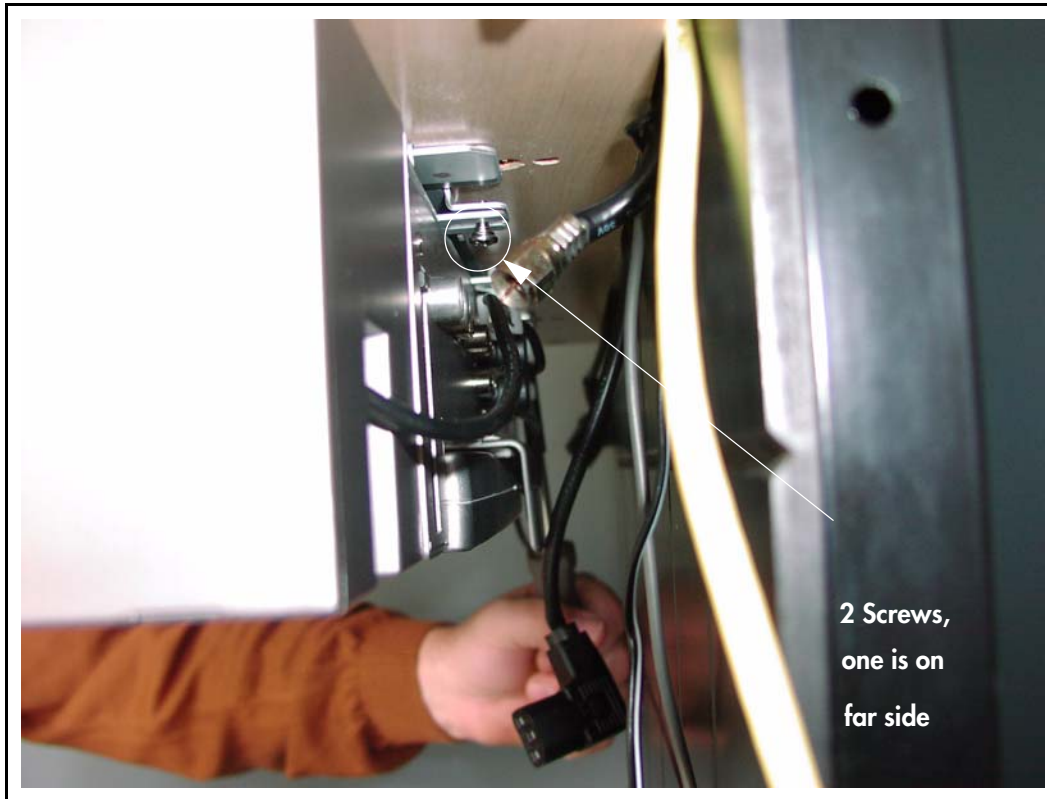

FIGURE 2. Removing cables and screws from back panel.
2. Secure the two screws on the rear of the mounting bracket. (Figure 2 on page 53)